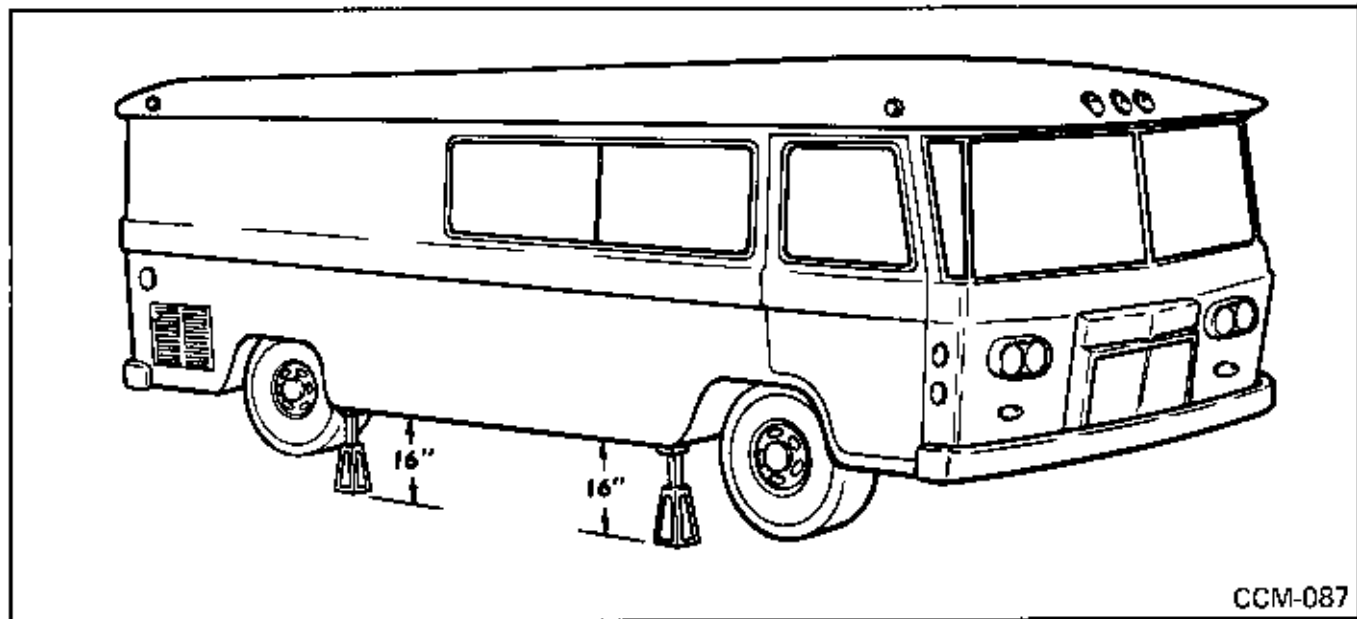

Fig. 82
1. Raise the front and rear of unit on all four jack stands at a height of 16" on each jack stand. (Fig. 82)